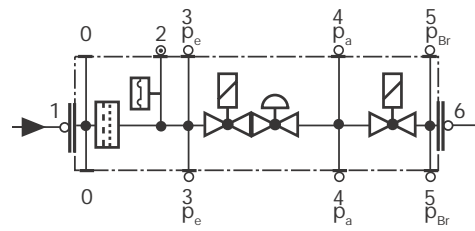

Fig. 26
- 2 Remove screws 1 ÷ 4 using the Allen key n. 3 and remove filter cover 5 in Fig. 26.